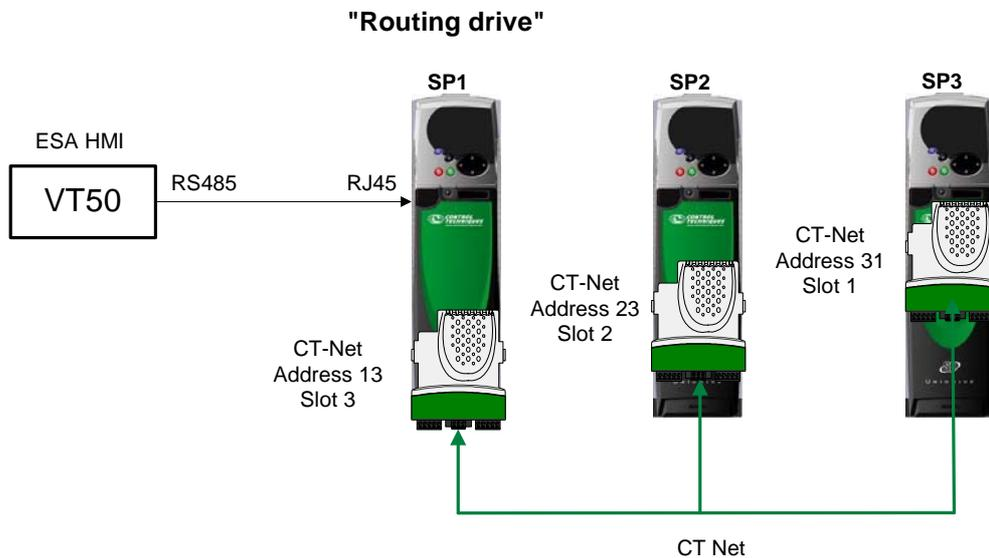

Fig. 1. Hardware overview.
1.1 Set 3 Unidrive SPs with 3 SM-Applications modules linked through CTNet, as per figure 1.